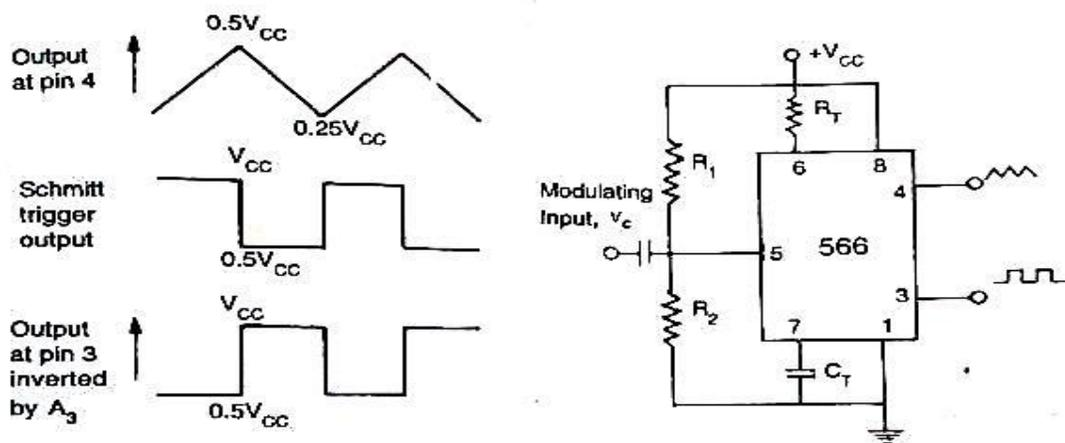

Figure 26(c): Output waveform (d): Typical connection diagram
- The voltage v_C can be varied by connecting a R_1R_2 circuit as shown in Fig.26 (d).